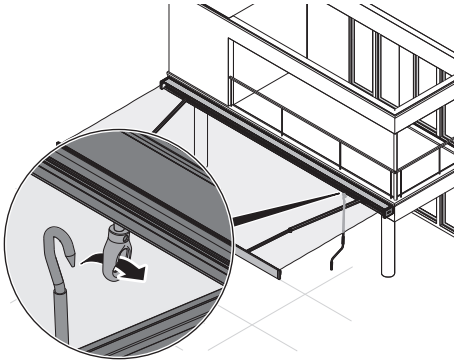

Fig. 19: Insert the manual crank
2. Insert the manual crank in the incline adjustment slot (fig. 19).